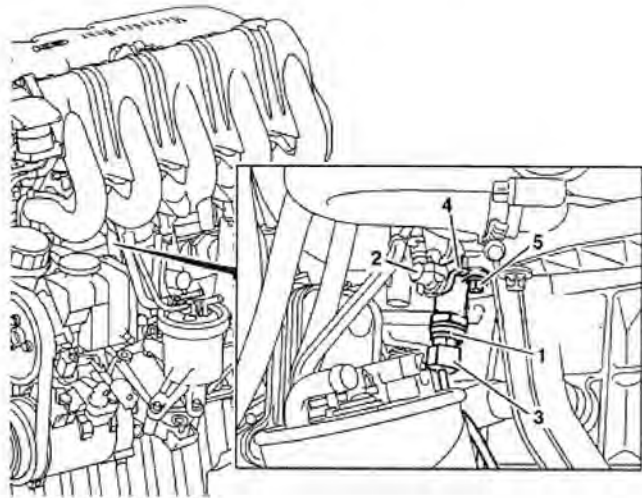

Figure 11
- 23 Remove fuel line connector (2, Figure 11) from fuel pressure sensor (1); refer to WIS: AR47.25-P-1000-01A.
- Install **new** O-ring on connector (2) on reassembly.